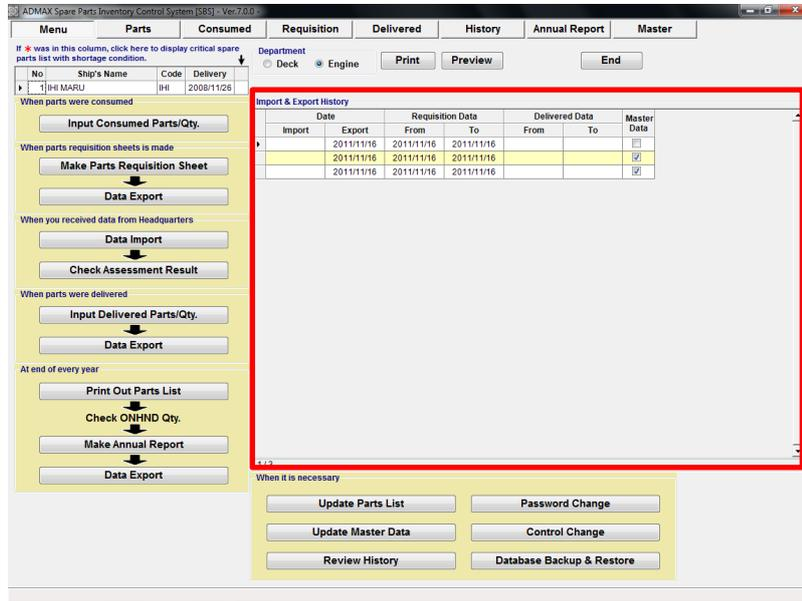

Fig 7.3 Menu
5. On the "Menu Screen"(Fig.7-3), select [Check Assessment Result].